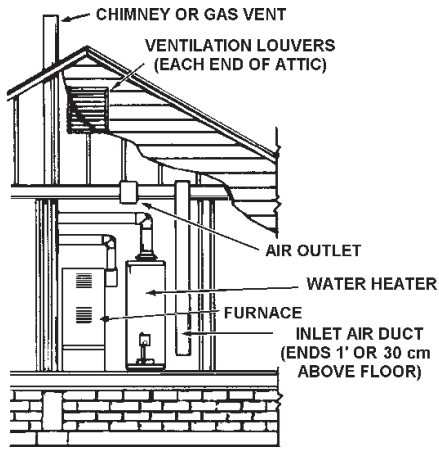

FIGURE 13.
- When communicating with the outdoors through vertical ducts, each opening shall have a minimum free area of 1 square inch per 4,000 BTU per hour (5.5 cm2/kW) of total input rating of all equipment in the enclosure, see Figure 13.